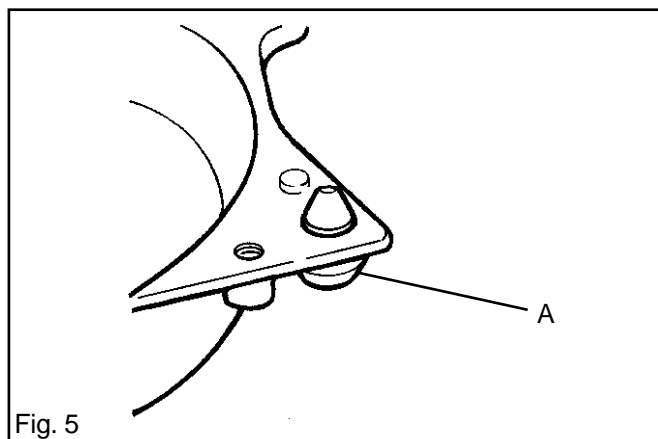

Fig. 5
- A. Remove the rubber stop (A). See fig. 5.